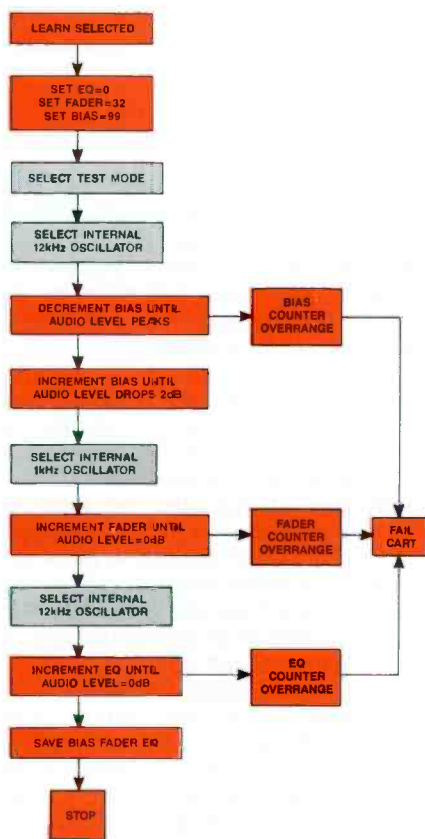

Figure 1. The learn mode allows the machine to store as many as 10 sets of bias, equalization and input sensitivity data for instant recall.
The multicoupler, which was custom-designed for us, has two band-reject filters for 152MHz and 158MHz. The system block diagram is shown in Figure 1. The three antennas are fed into a VHF-low, VHF-high wideband, 2-way power combiner that has a coupling loss of 3.4dB. Two hybrid amplifiers, arranged in a feed-forward configuration, provide a uniform cancellation of all second-, third- and higher-order harmonics. The second-, third- and higher-order intermodulation products typically are reduced by 25dB. The combined VHF output is then amplified in a wideband linear amplifier.
**Figure 1.** The monitoring system combines two VHF antennas and one UHF antenna into a single feed. A power divider located in the newsroom splits the signal into eight feeds and prevents intercoupling between receivers.
The r/p machine also has a "learn" mode that automatically adjusts the bias, equalization and input sensitivity for up to 10 different tape characteristics. (See Figure 1.) A front-panel display functions both as a timer and as a status display for the various memory features. There is even a built-in test oscillator with eight frequencies spanning 50Hz to 16kHz. Com-